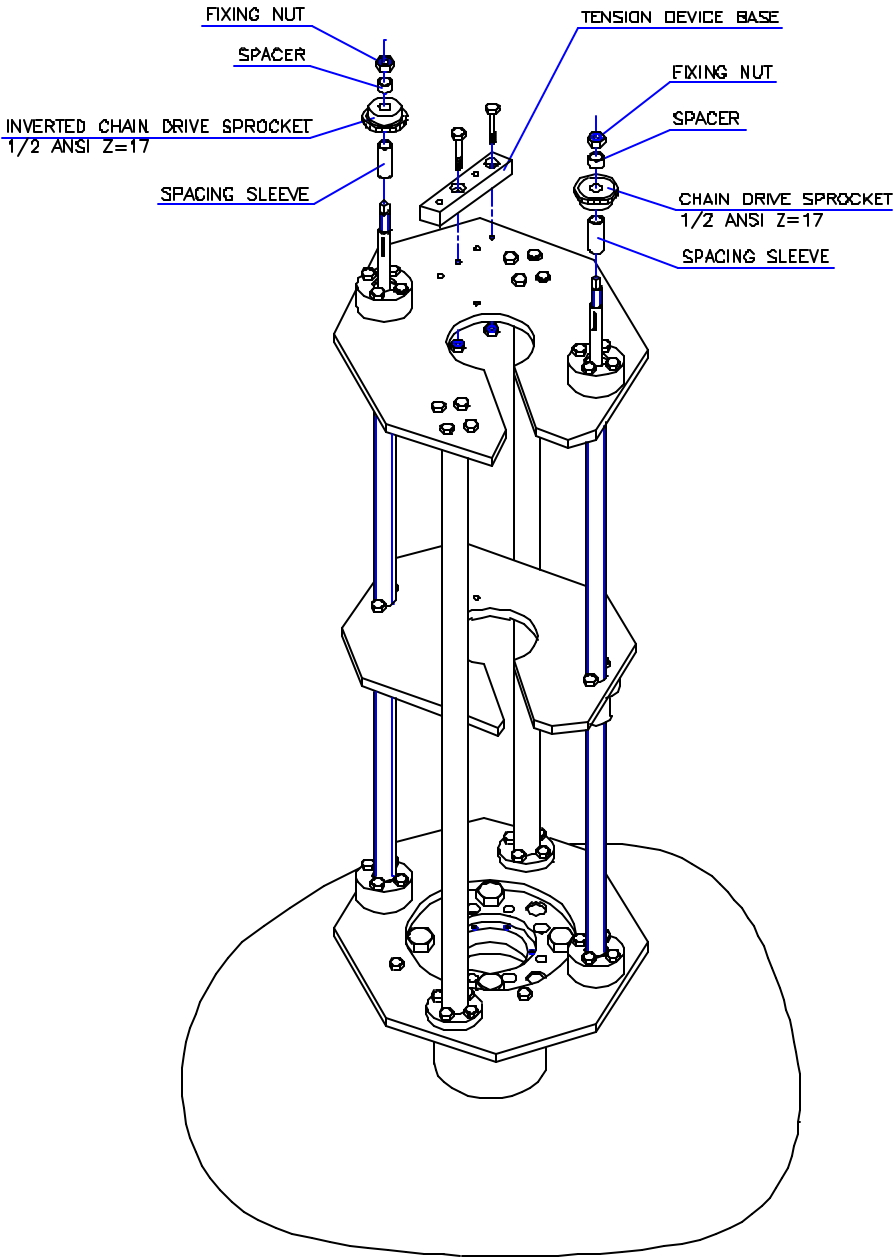

Figure 10
1. Lower a **Spacing Sleeve** over the top of one of the **Screw Assemblies** and let it down to rest on the **Top Bearing Assembly**, (*see Figure 10*).